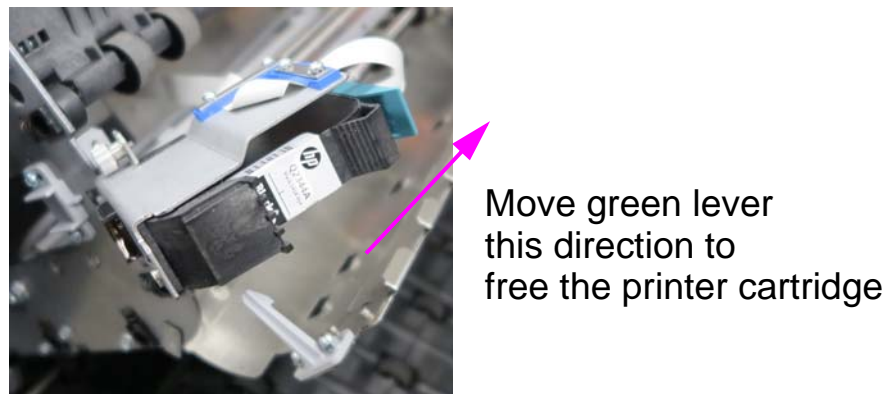

Figure 5-4: Green lever
4. Pivot the printer assembly towards you to access the green lever, and open it (Figure 5-4).